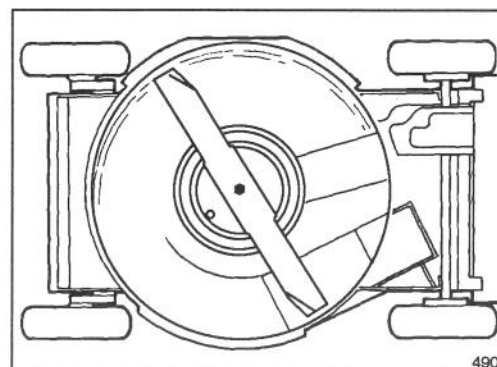

Figure 23
3. Tip mower on its right side (Fig. 23). Avoid rotating blade as starting problems may result.